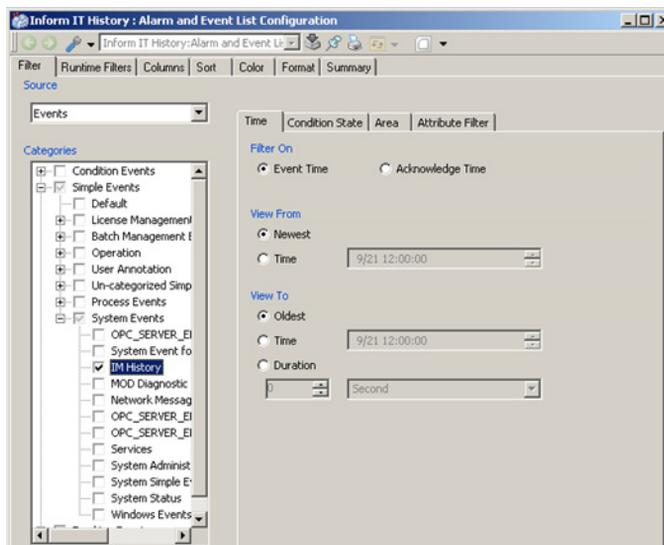

Figure 99. Alarm and Event Configuration
2. From the Configuration View of the Alarm and Event List Configuration Aspect, select **Simple Event > IM History** (Figure 99).